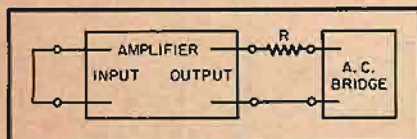

Fig. 7. Set-up for measuring output impedance.
Fig. 7 and adding compensator R_4C_2 . This is equivalent to combining (B) and (C). Proper choice of values and tap can yield a closer approximation to the theoretical curves of Fig. 5.
An alternate method of measurement is interesting and useful because of its simplicity and because it may be used to measure either positive or negative values. An a.c. bridge and a resistor are required. The resistor should be somewhat larger than the negative resistance the amplifier is expected to have and should be measured first on the bridge by itself. Then the resistor, bridge, and amplifier are connected as shown in Fig. 7 and the bridge is bal-
If, for example, the resistor is 10 ohms and in the circuit of Fig. 7 the bridge balances at 5 ohms, the amplifier internal resistance is $5-10=-5$ ohms. A positive internal amplifier resistance may be measured simply by connecting the bridge to the amplifier without a resistor and accepting the indication of the bridge at balance.